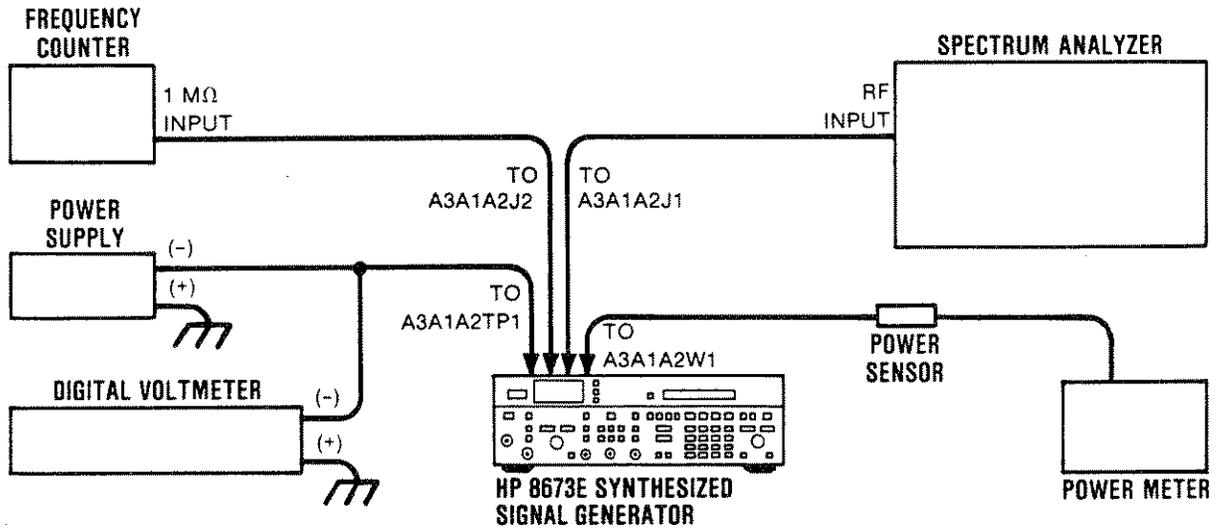

Figure 5-5. Reference Loop (VCXO) Adjustment Test Setup
1. Connect the frequency counter to A3A1A2J2 in place of the termination and connect the spectrum analyzer to A3A1A2J1 in place of the gray-orange-white cable, as shown in Figure 5-5.